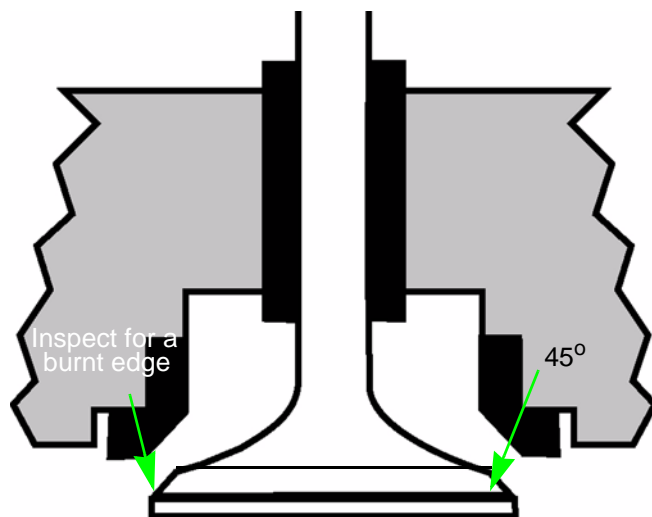

Figure 9.14
7. Inspect the valve stem. See Figure 9.14.